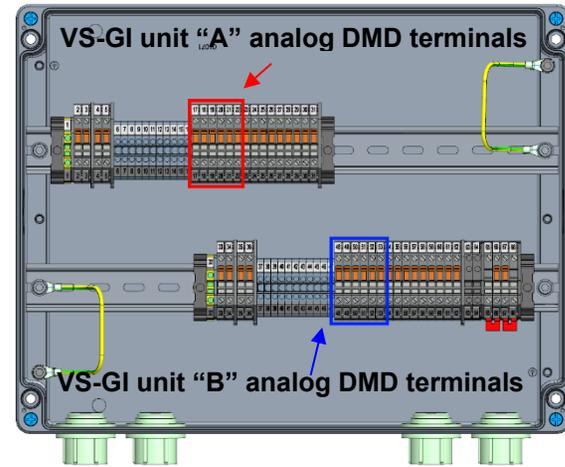

Figure 2-71. Analog Demand Terminals
51. Close knife terminals [ANALOG DMD CH1, ANALOG DMD CH2] for the new VariStroke (Figure 2-71) (VariStroke A terminals # 17 through 22, 6 terminals) or (VariStroke B terminals # 48 through 53, 6 terminals)